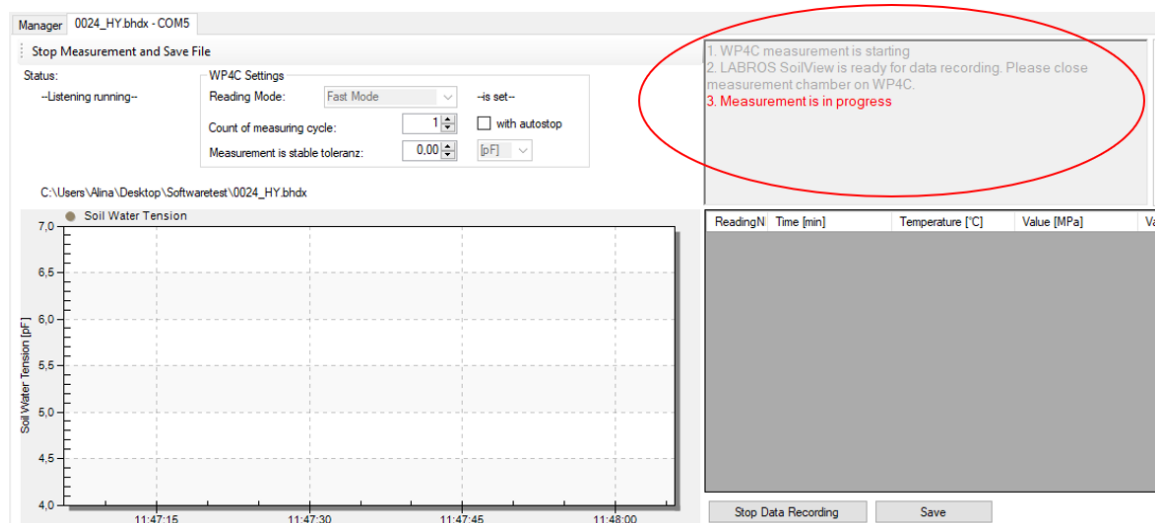

Figure 5 Measurement Status
6. The status of the measurement and the next steps to perform is displayed in the upper right corner of the software screen, see Figure 5.